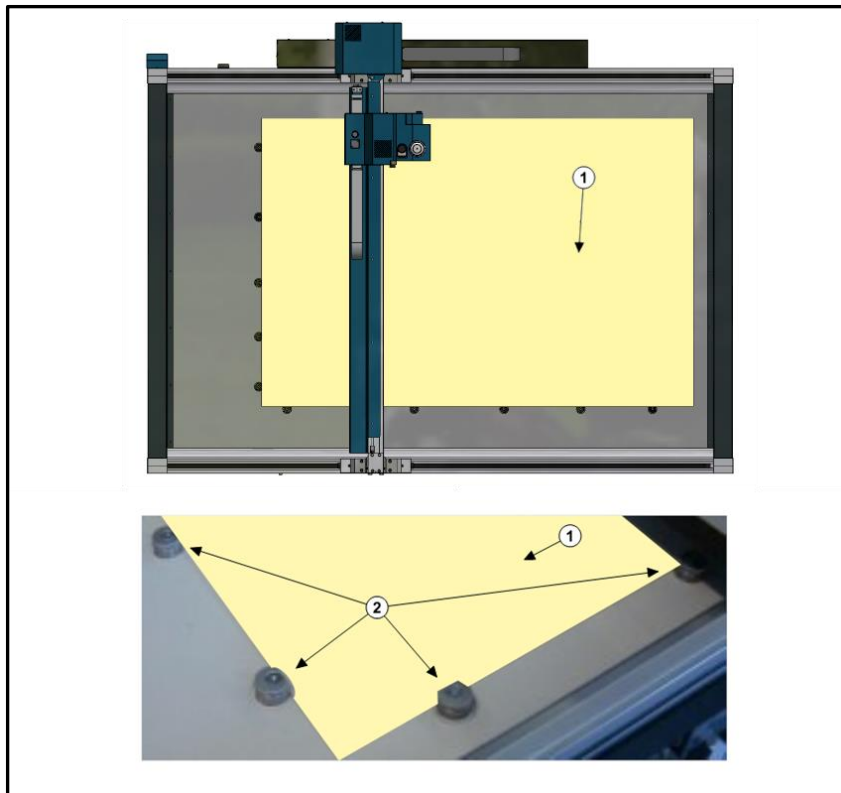

Figure 5-1
- According to the software preview, clamps that should generate a collision with one of the tool will be highlighted in red. If so please rotate the top part of the clamp clockwise (Figure 5-1) so that when the cutting process starts they will not interfere.